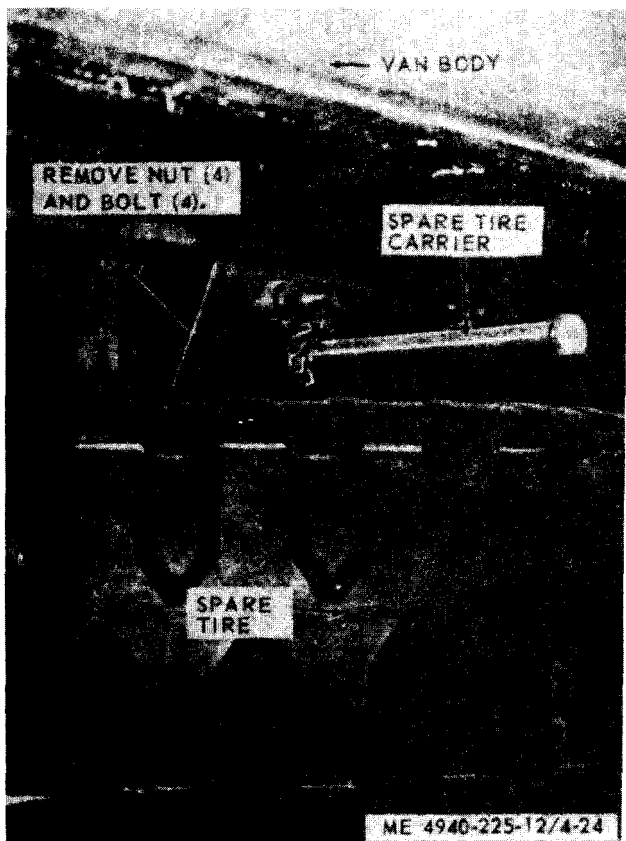

Figure 4-24. Spare tire, removal and installation.
a. Removal. Remove the spare tire as illustrated in figure 4-24.
b. Installation. Install the spare tire as illustrated in figure 4-24.